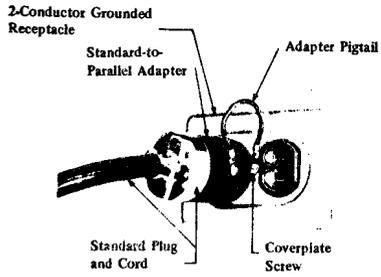

FIGURE 6. Grounded 2-conductor Receptacle.
4.03 2-Wire Receptacles (Grounded Outlet Box)—Where it is known that a building is wired with metallic conduit, armored cable, or nonmetallic sheath cable with a grounding conductor, the outlet boxes may be grounded. Under these conditions and only after it has been found that the boxes are grounded, the grounding pigtail terminal on the adapter or plug may be fastened under the coverplate screw of the receptacle. See Figure 6. In grounding to a 2-conductor receptacle (Figure 6), connect pigtail to coverplate screw before inserting adapter into the receptacle.